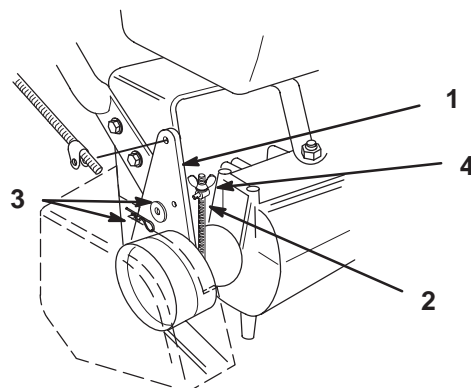

Figure 12
6. If brake adjustment is required, remove hairpin cotter and washer securing brake rod fitting to idler bracket (Fig. 12).
7. Adjust wing nut up or down on brake rod and secure fitting to idler bracket (Fig. 12). Check adjustment and readjust if necessary.